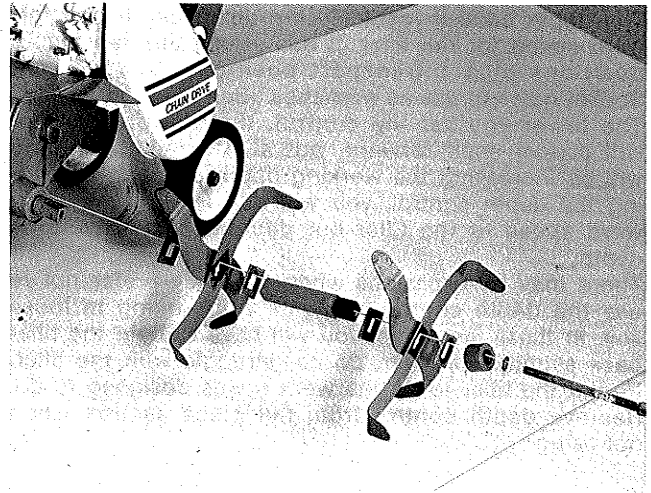
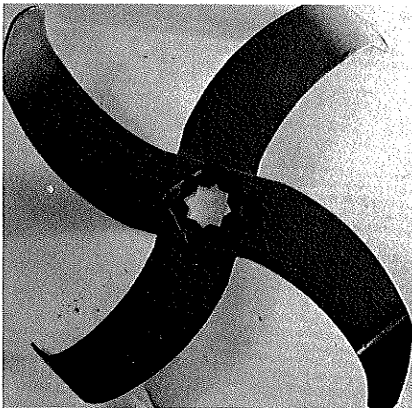

FIGURE 9
FIGURE 11
This compact tiller comes with four (4) sets of (2) tines (Fig. 10). One blade (Fig. 11) or two blades (Fig. 12) can be added to each set to give more blades for better tilling and better loosening of soil. For assembly of tine shaft and tines. See Fig. 9.